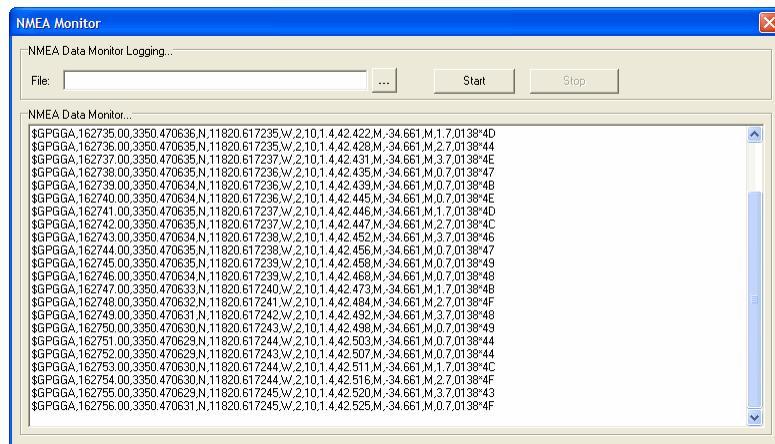

Figure 115: NMEA Viewer
- ✓ Select *Tools > NMEA Viewer* from the menu bar. The viewer opens with data output from the scheduled NMEA messages (see Figure 115).